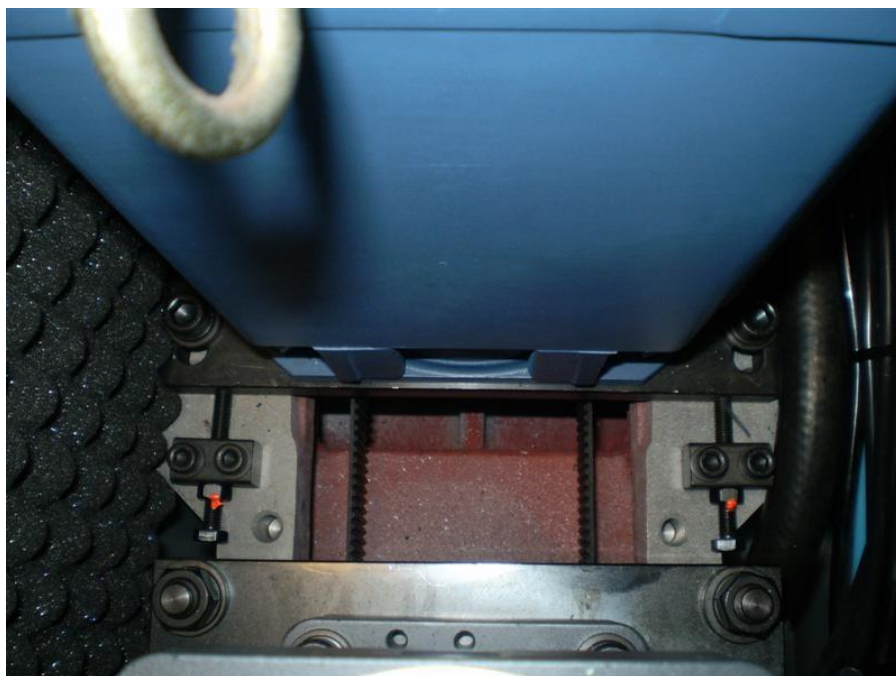

Figure 6.14.1b
- b. Release the jam nut from the two belt tensioning screws. Loosen the belt tensioning screws completely with a 13 mm wrench and pull the motor toward the front of the LPM. See figure 6.14.1b